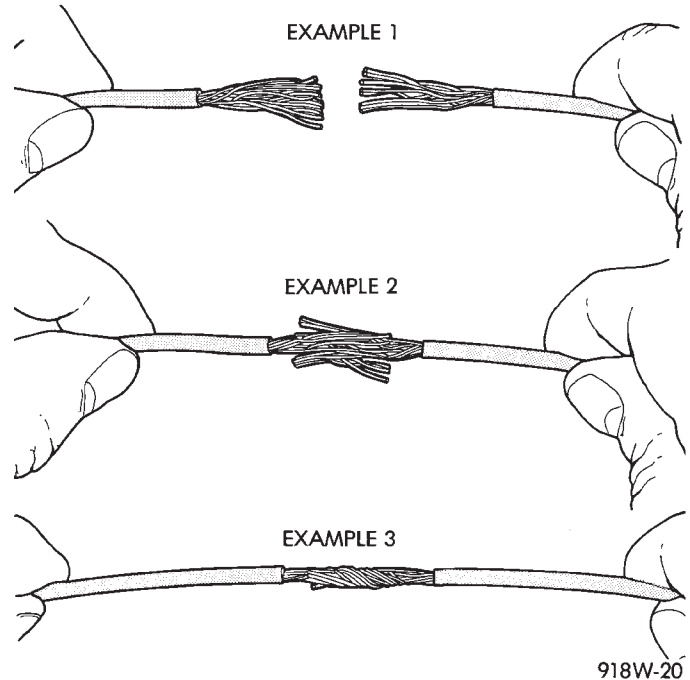
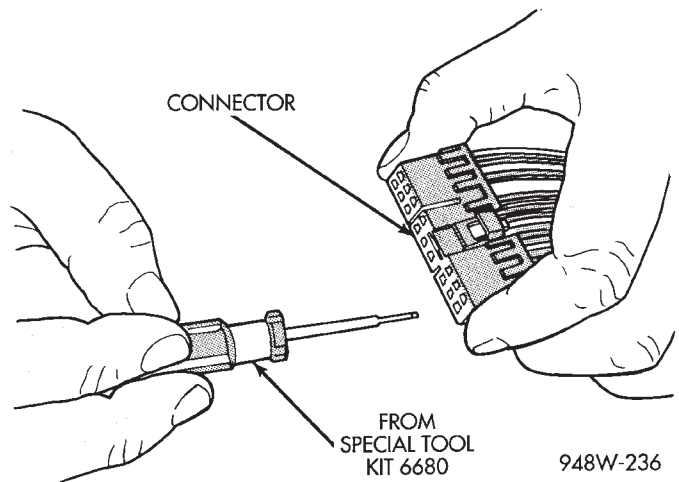
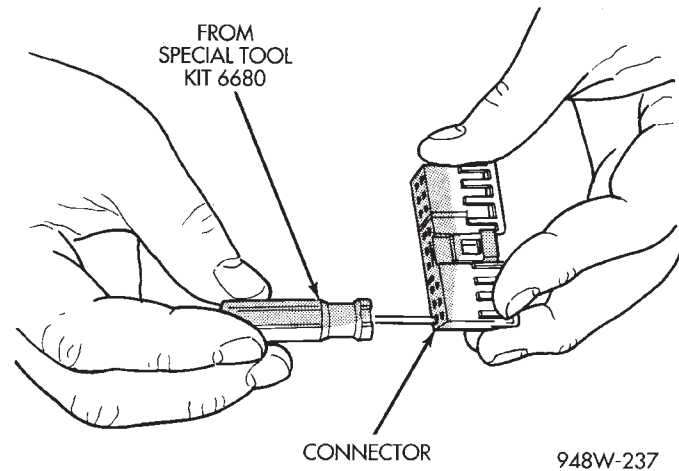
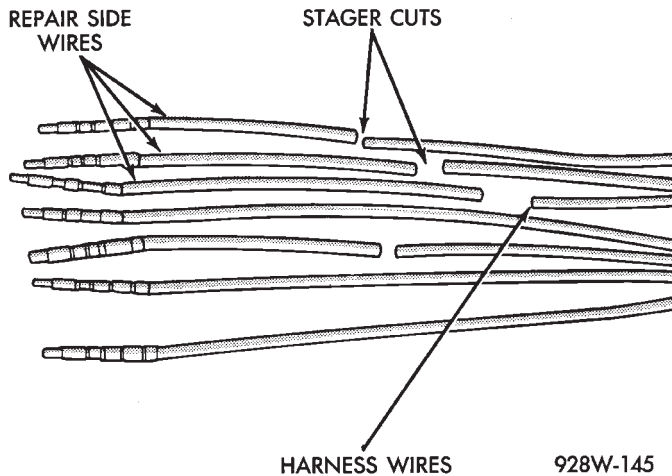

Fig. 11 Wire Repair
Fig. 15 Terminal Removal
Fig. 16 Terminal Removal Using Special Tool
Fig. 17 Stagger Cutting Wires (Typical)
- (1) Disconnect battery negative cable.
- (2) Remove 1 inch of insulation from each end of the wire.
- (3) Place a piece of heat shrink tubing over one side of the wire. Make sure the tubing will be long enough to cover and seal the entire repair area.
- (4) Spread the strands of the wire apart on each part of the exposed wires (Fig. 11 example 1).
- (5) Push the two ends of wire together until the strands of wire are close to the insulation (Fig. 11 example 2).
- (6) Twist the wires together (Fig. 11 example 3).
- (7) Solder the connection together using rosin core type solder only. **Do not use acid core solder.**
- (8) Center the heat shrink tubing over the joint, and heat using a heat gun. Heat the joint until the tubing is tightly sealed and sealant comes out of both ends of the tubing.
- (9) Secure the wire to the existing ones to prevent chafing or damage to the insulation.
- (10) Connect battery and test all affected systems.
- (4) Position the connector locking finger away from the terminal using the proper pick from special tool kit 6680. Pull on the wire to remove the terminal from the connector (Fig. 15, and Fig. 16).
- (1) Disconnect battery.
- (2) Disconnect the connector (that is to be repaired) from its mating half/component.
- (3) Cut off the existing wire connector directly behind the insulator. Remove six inches of tape from the harness.
- (4) Stagger cut all wires on the harness side at 1/2 inch intervals (Fig. 17).
- (5) Remove 1 inch of insulation from each wire on the harness side.
- (6) Stagger cut the matching wires on the repair connector assembly in the opposite order as was done on the harness side of the repair. Allow extra length for soldered connections. Check that the overall length is the same as the original (Fig. 17).
- (7) Remove 1 inch of insulation from each wire.
- (8) Place a piece of heat shrink tubing over one side of the wire. Be sure the tubing will be long enough to cover and seal the entire repair area.
- (9) Spread the strands of the wire apart on each part of the exposed wires (Fig. 11 example 1).
- (10) Push the two ends of wire together until the strands of wire are close to the insulation (Fig. 11 example 2).
- (11) Twist the wires together (Fig. 11 example 3).
- (12) Solder the connection together using rosin core type solder only. **Do not use acid core solder.**
- (13) Center the heat shrink tubing over the joint and heat using a heat gun. Heat the joint until the tubing is tightly sealed and sealant comes out of both ends of the tubing.
- (4) Position the connector locking finger away from the terminal using the proper pick from special tool kit 6680. Pull on the wire to remove the terminal from the connector (Figs. 15 and 16).
- (5) Cut the wire 6 inches from the back of the connector.
- (6) Remove 1 inch of insulation from the wire on the harness side.
- (7) Select a wire from the terminal repair assembly that best matches the color wire being repaired.
- (8) Cut the repair wire to the proper length and remove 1 inch of insulation.
- (9) Place a piece of heat shrink tubing over one side of the wire. Make sure the tubing will be long enough to cover and seal the entire repair area.